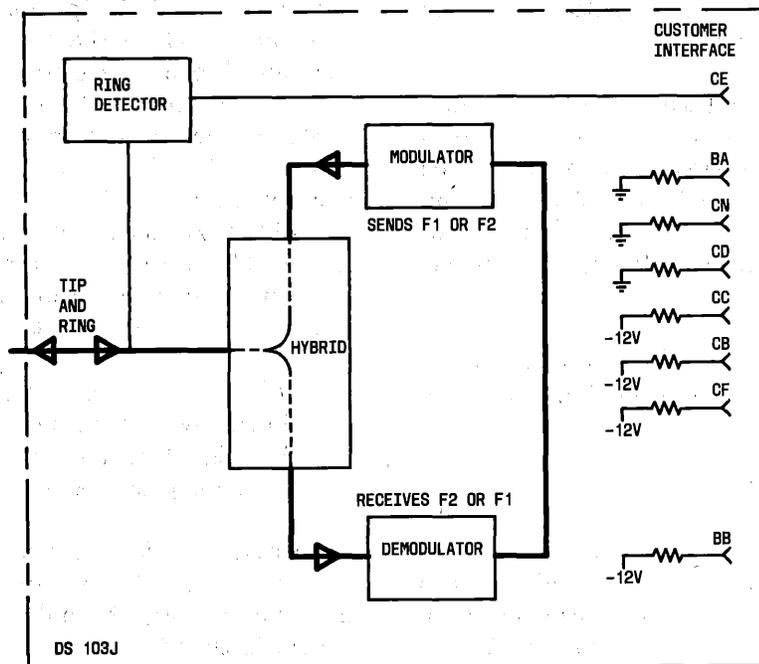

Fig. 4—Digital Loop-Back Test Mode—Simplified Block Diagram
2.12 Entering the digital loop-back test mode (Fig. 4) causes the data set internally to loop BB (receive data) to BA (send data) and simulate an **on** condition of the CD (data terminal ready) circuit. In addition, this causes the following to occur: